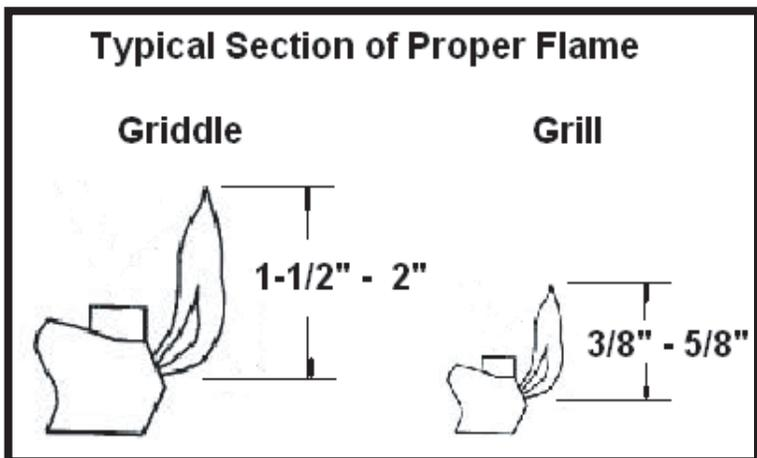

Fig. 1
■ FLAME HEIGHT (see fig. 1) :
- 5) With propane (LP) gas, slight yellow tips on the primary cone are normal.